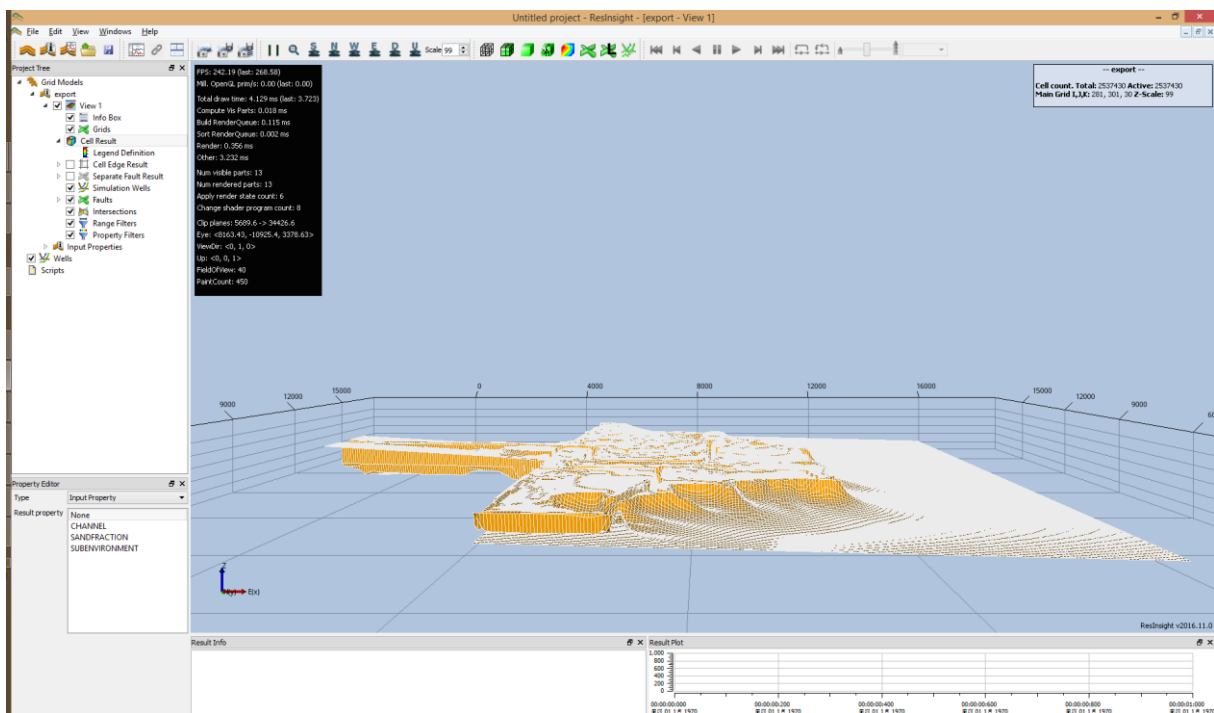

Figure 3.37 An example of the initial viewer for ResInsight
2. Inspect the model results using the ResInsight viewer (Figure 3.37)